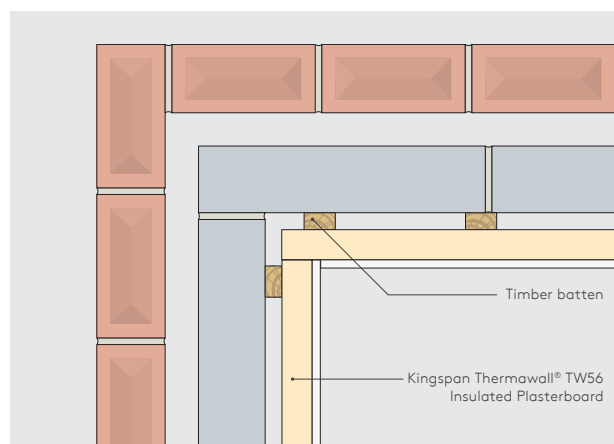

Figure 5: Internal corner detail
- For internal and external corners, sheets should be cut and rebated to allow a plasterboard / plasterboard joint at the angle (see Figures 5 & 7).
- For internal and external corners, ensure sheets are lightly butted and air gaps minimised to reduce the risk of thermal bridging (see Figures 5 & 6).
- The packer should be replaced with a flexible urethane / acoustic sealant prior to skirting being fitted (see Figure 5).